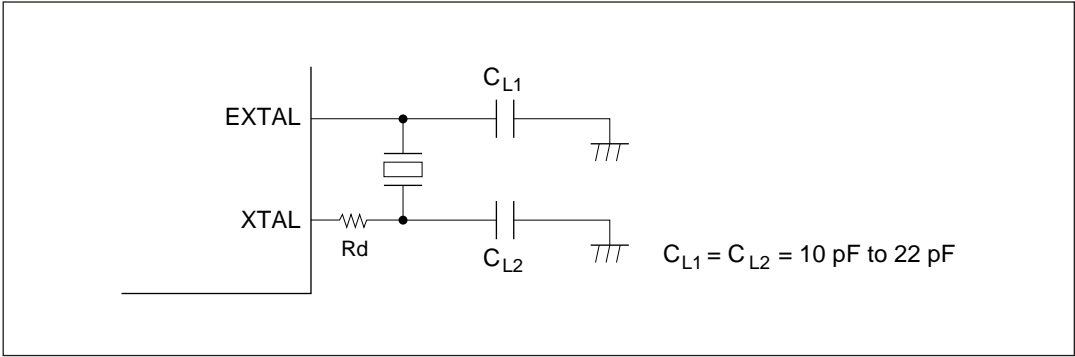

Figure 6-2 Connection of Crystal Oscillator (Example)
(1) Connecting an External Crystal
① **Circuit Configuration:** An external crystal can be connected as in the example in figure 6-2. Table 6-1 indicates the appropriate damping resistance Rd. An AT-cut parallel resonance crystal should be used.